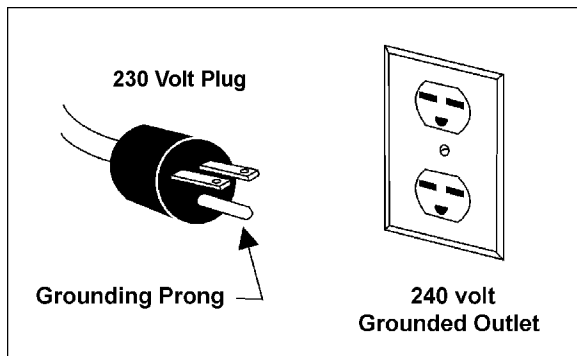

Figure 8
3. The 115V attachment plug supplied with the band saw must be replaced with a UL listed plug suitable for 230 volt operation, similar to the one shown in Figure 8. Contact your local authorized Walter Meier service center or qualified electrician for proper procedures to install the plug. The band saw must comply with all local and national codes after the 230 volt plug is installed.
5. The band saw with a 230 volt plug should only be connected to an outlet having the same configuration (Figure 8). No adapter is available or should be used with the 230 volt plug.